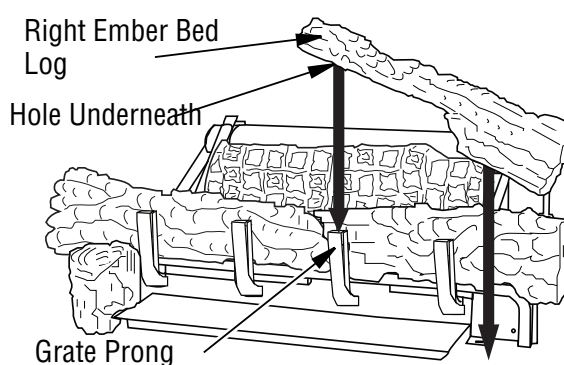

Figure 32 - Installing Right Ember Bed Log
- The right ember bed log 24" & 30" (D-047) has a hole in the log that sets on the grate finger and the other end rest on the fireplace floor, place log as shown in **Figure 32**. The right ember bed logs for 18" (D-072) has a groove on the side that sets on the ember bed pan and the back of the log needs to rest against the front of the base. Make sure the flame from the ember pan does not touch the ember bed log. The back side of this log needs to rest against the front of the base assembly, make sure the flame from the ember pan does not touch the ember bed log.